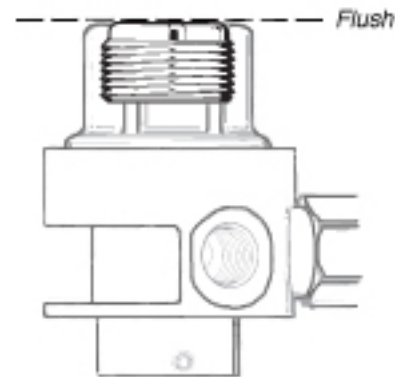

Figure 31 - Adjustment screw preliminary setting
16. After checking to ensure that the spring pad is positioned over the center of the diaphragm, install the main spring (4) into the spring retainer, followed by the washer (3) on top of the spring.
17. Lightly lubricate the lower threads with Christo-Lube® and mate the adjustment screw (1) over the spring and washer, and turn it clockwise to engage the threads. Apply a 5/16" blade screwdriver to turn the adjustment screw further until it is flush with the top of the spring retainer (see Figure 31).